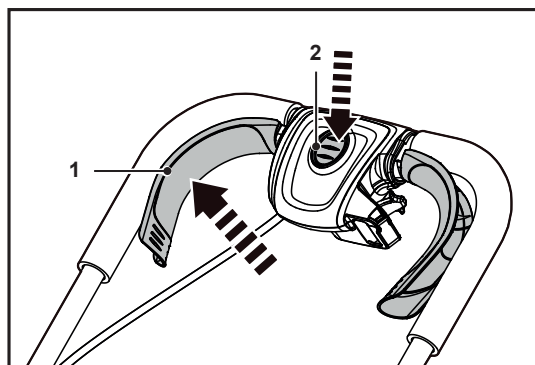

Fig. 11
2. Make a loop in the power cord (5) and hang the loop onto the cord strain-relief hook (4).
3. Stand behind the grip handle (3).
4. While depressing the safety lock-off button (2), pull either start lever (1) towards the grip handle (3) and hold in place (Fig. 11).